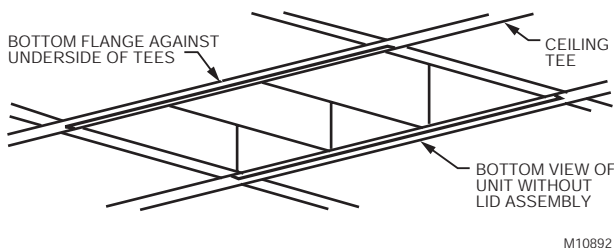

Fig. 5. Fasten cabinet to a structural support.
- Use the four 3/8 x 16T internal nuts (one at each corner) to fasten the cabinet to a structural support (bar joist, concrete slab or timber framing). See Fig. 5.